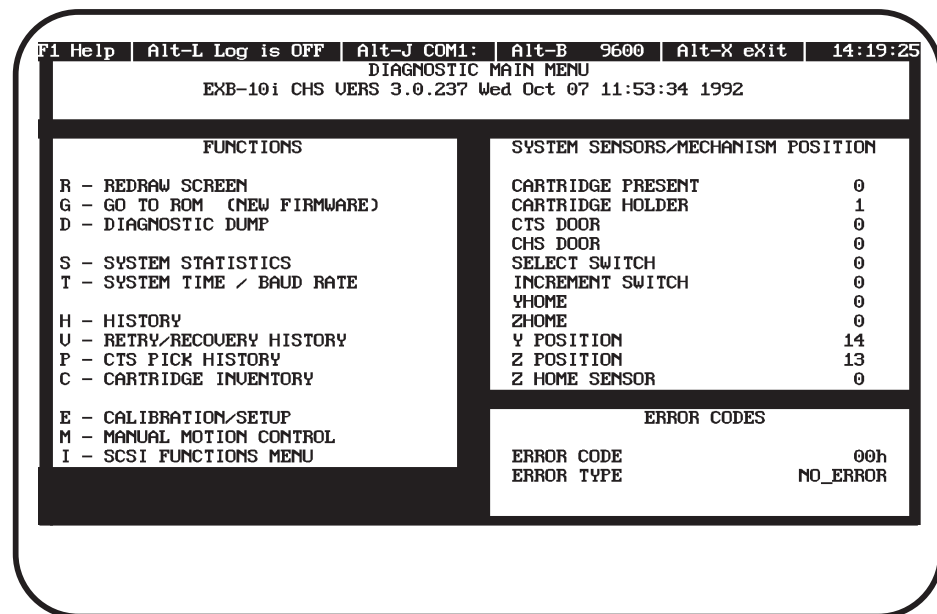

Figure 6-1 Functions Menu in the Diagnostics Main Menu (for the EXB-10i)
The Functions Menu is shown in Figure 6-1.
**Note:** Figure 6-1 shows an example of the EXB-10i's Diagnostic Main Menu, code level 3.0. For code level 3.1, the MANUAL MOTION CONTROL selection is replaced by the DIAGNOSTIC FUNCTIONS selection. The EXB-10's Diagnostic Main Menu is similar, except that it does not contain the SCSI FUNCTIONS MENU selection under